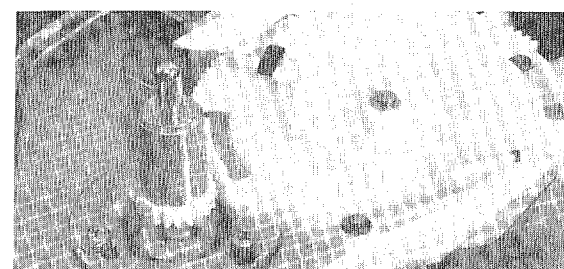

Fig. 5
4. Before applying electrical power to the unit, press the PLAY/OFF switch so that the auto-return system will engage the center shaft gears, then set the speed selector switch at 33 rpm. (Fig. 5)